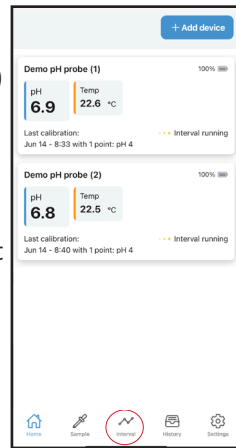

Figure 1
- Select **Interval** from the bottom menu bar (Figure 1)